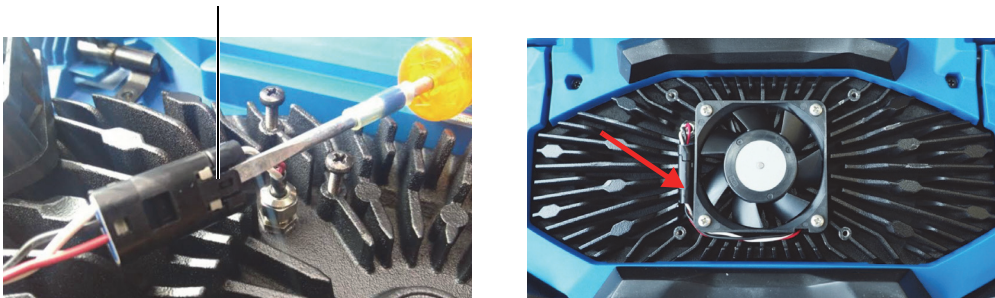

Figure 4-3 Fan cable disconnection (*left*) and final placement (*right*)
3. If the fan is damaged or malfunctioning, carefully disconnect the cable (see Figure 4-3 on page 52) and replace the fan with a new one.
4. If the fan cable was disconnected or moved, make sure that it is properly reconnected and placed for reassembly (see Figure 4-3 on page 52).